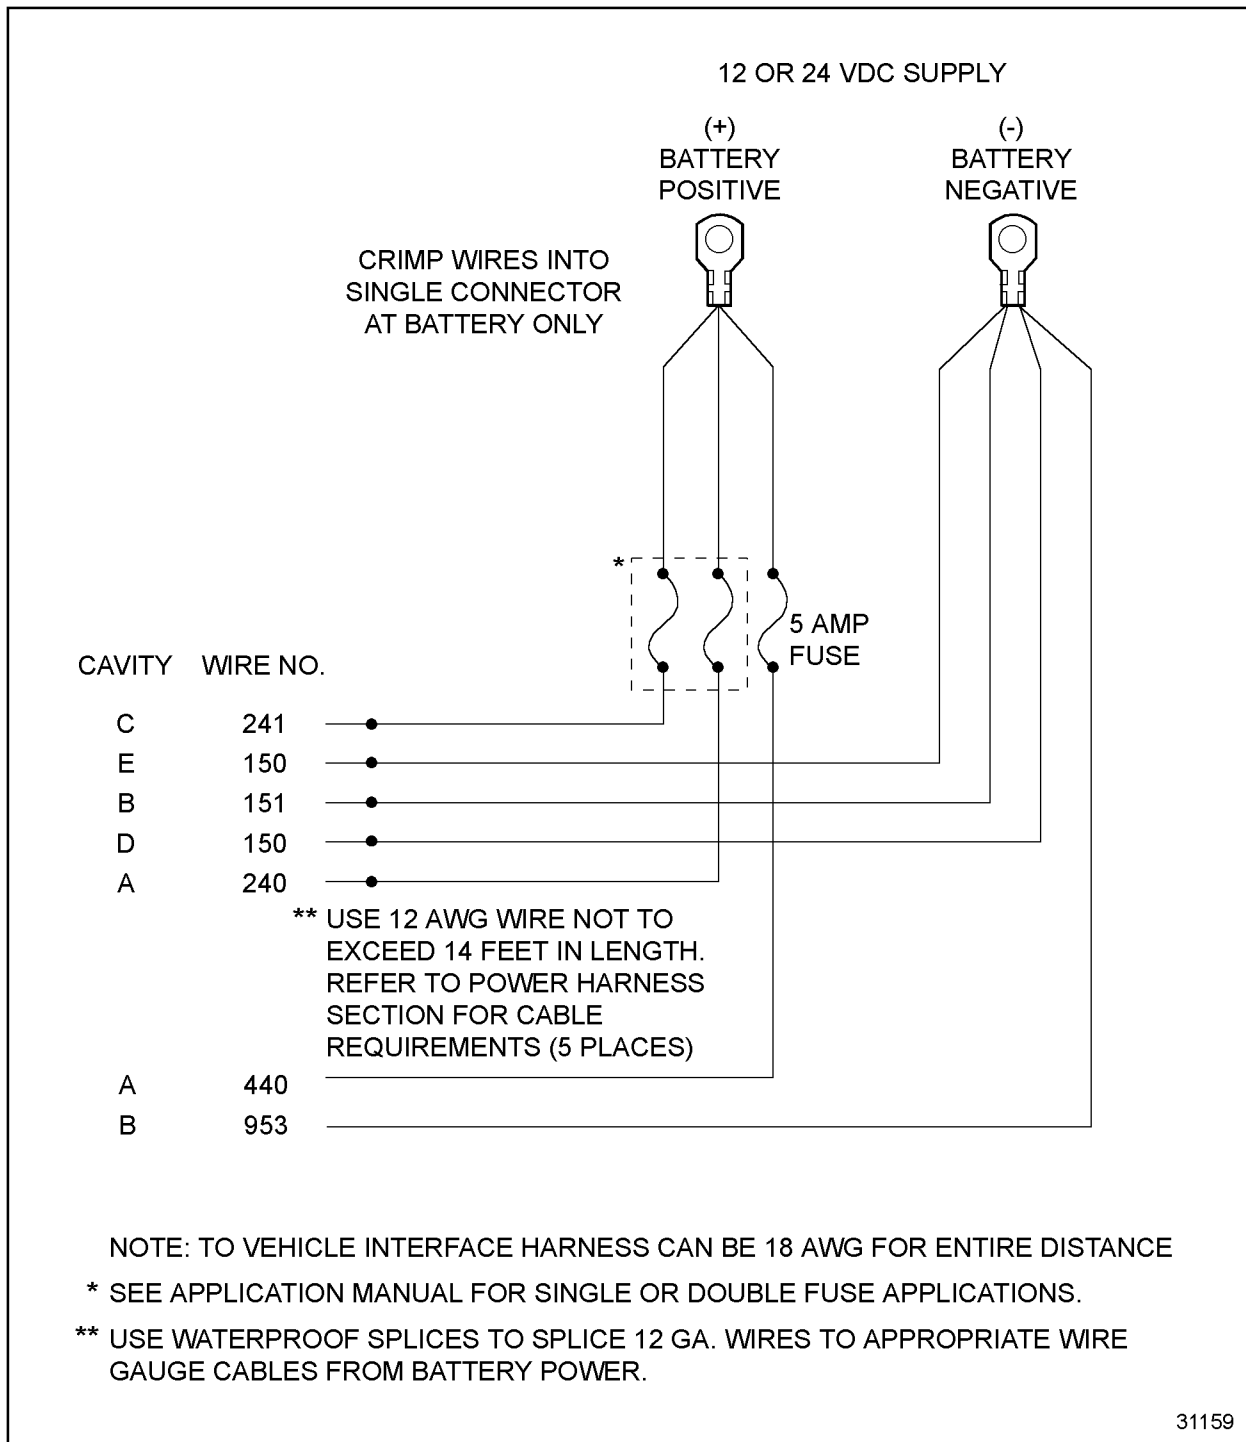

Figure 10-3 Power Harness Diagram
2. Measure voltage at other ECM fuse or circuit breaker. Note that battery side does not contain #240 or #241 wires. See Figure 10-3.